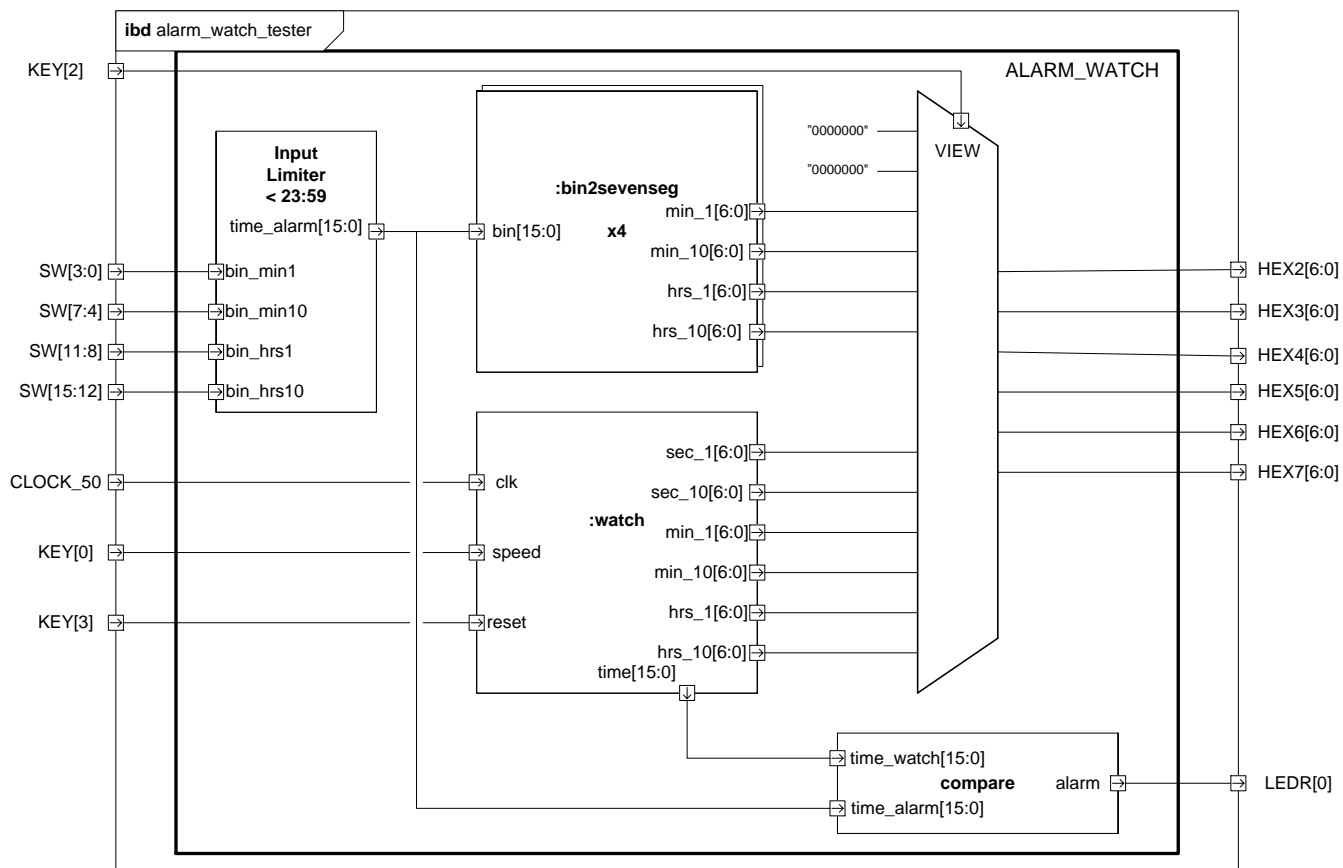

FIGURE 6 ALARM CLOCK
- 1) Extend the watch component with an alarm feature with a one minute resolution (meaning: only hours and minutes can be set). Use the time output from the counters to detect an alarm. A roughly sketched drawing for inspiration is shown in Figure 6
- 2) Update the tester and instantiate (as shown in Figure 6). Download and test the design on the DE2 board.